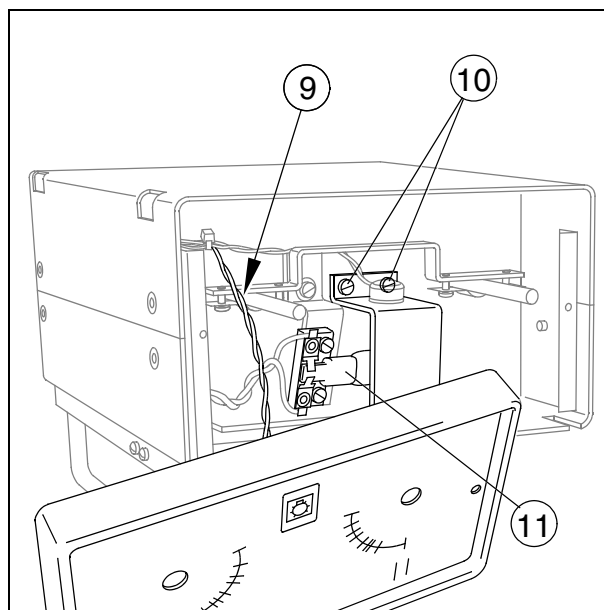

Fig. 5
Caution: Front panel is connected to collimator via cables (9/Fig. 5).
Caution: The frontpanel is connected to the collimator via cables (9/Fig. 5).
- Loosen both screws (10/Fig. 5) and unscrew the bracket carrier of the temperature switch).
- Take out the defective lamp (11/Fig. 5) and replace it by a new lamp.